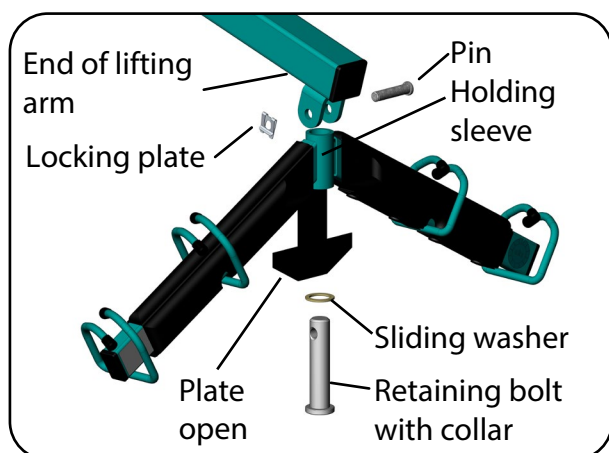

Fig. 6.2.06 – Assembly of the spreader bar
10. To mount the spreader bar, open the bar padding (plate). Remove the locking plate and then remove the pin from the hole on the end of the lifting arm. This separates the retaining bolt with collar from the lifting arm (Fig. 6.2.06).
12. Then insert the retaining bolt with collar together with the sliding washer from below through the holding sleeve of the spreader bar (Fig. 6.2.06). The sliding washer lies on the collar of the retaining bolt.